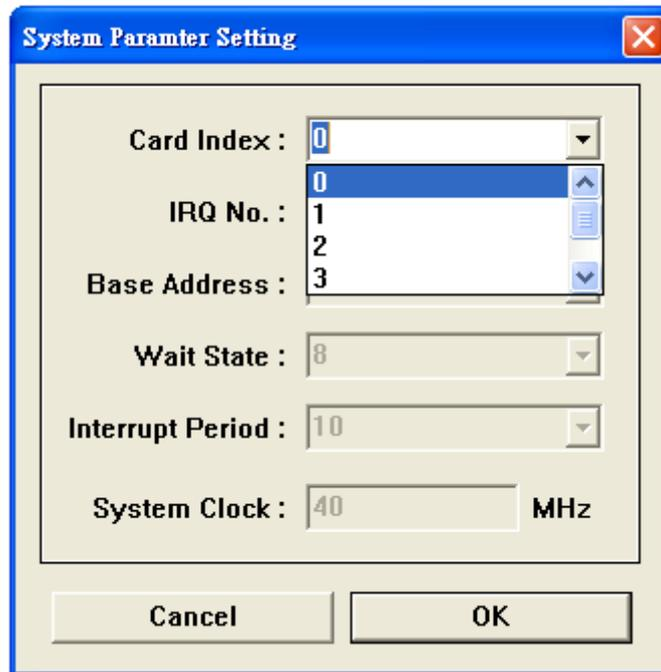

Figure 4-1.2
(1) Card index setting (as shown in Figure 4-1.2)